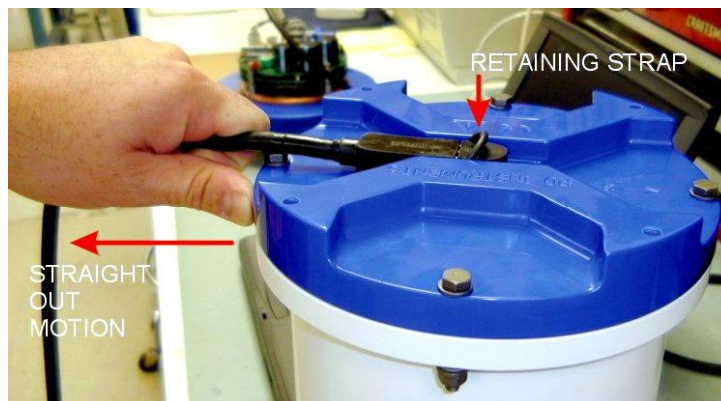

Figure 23. Removing the I/O Cable
- b. Grasp the cable close to the housing (see Figure 23). Your thumb should rest on top of the connector or against the edge of the housing. *Do not try to fit your hand under the cable as it passes over the housing.* This is what causes the upward force!